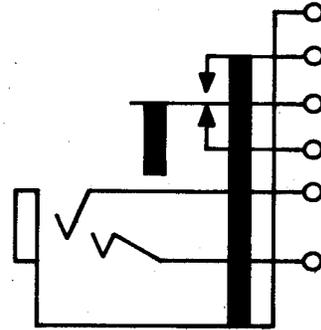

Fig. 11—326-Type Jack
**2.11 326A, C, AM, and CM:** These single-mounted jacks (Fig. 11) are used with the 310 or similar-type plugs. These jacks are intended to be mounted with the springs in a vertical plane. The 326AM and CM jacks are equipped with mechanically wrapped terminals.